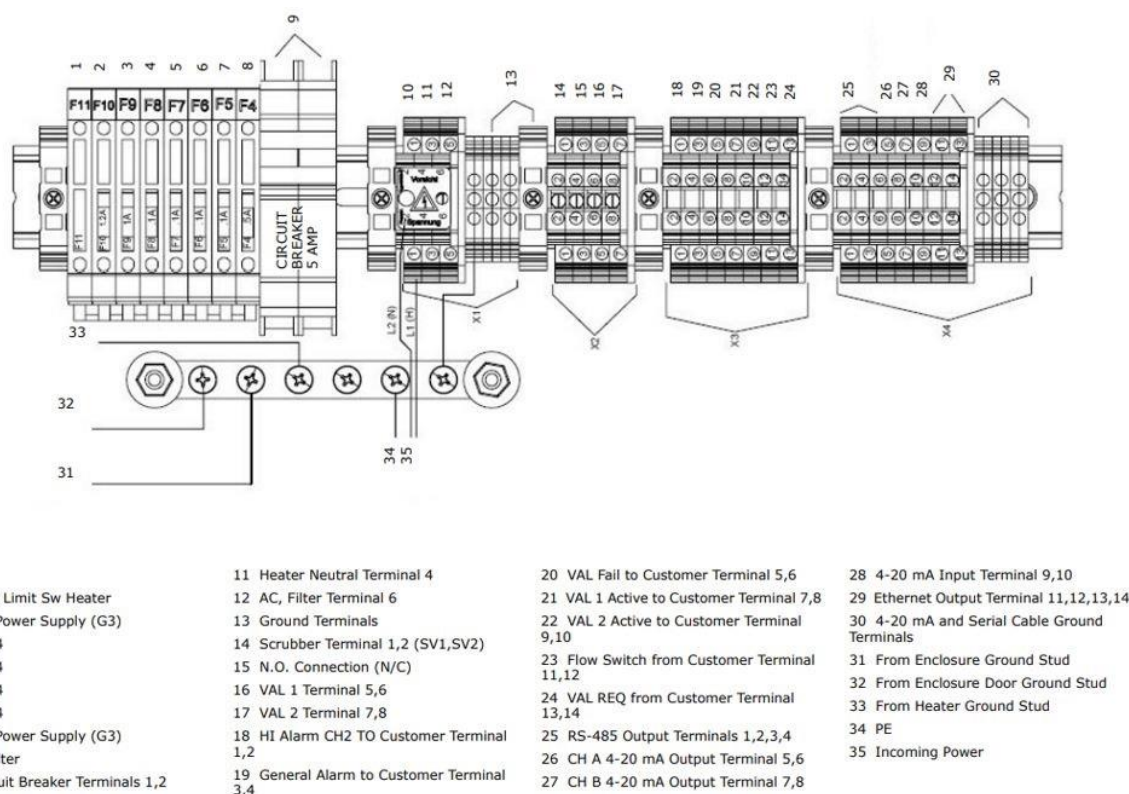

Figure 24. Field interface terminal block for connection of input power and input/output signals
- 6. Attach the neutral and hot wires to the power terminal blocks by connecting the neutral wire to terminal X1-2, the hot wire to terminal X1-1, as shown in Figure 24.
The 4-20 mA AI, 4-20 mA AO, serial, and Ethernet outputs are connected to terminal block (X4), as shown in Figure 24. In addition, seven digital inputs/outputs connected to SPDT relays through terminal block (X3) are also provided.